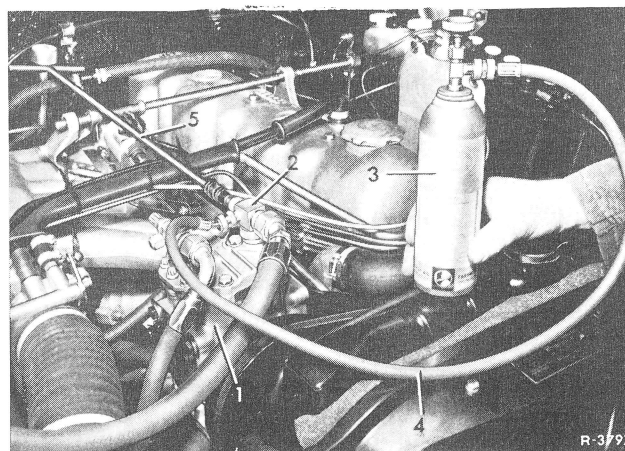

Fig. 1
Caution! If refrigerant is added in the form of vapor, always keep the supply cylinder with its top upwards (Fig. 1).
coupling nut on connection of service valve (suction end) (offset end with pressure pin of hose line) (Fig. 1).
7 Remove plugs (4) from connections and caps (5) from the two service valves (Fig. 1 or 2).